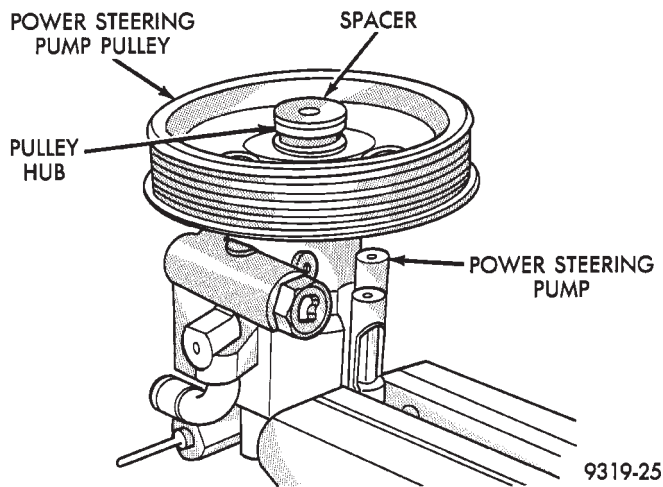

Fig. 3 Pulley And Spacer Installed On Pump
(1) Place the power steering pump pulley on the end of the power steering pump shaft. Make sure the pulley is installed squarely on the end of the shaft (Fig. 3).
(2) Install the spacer provided with the replacement power steering pump or power steering pulley into the hub of the power steering pump pulley (Fig. 3).